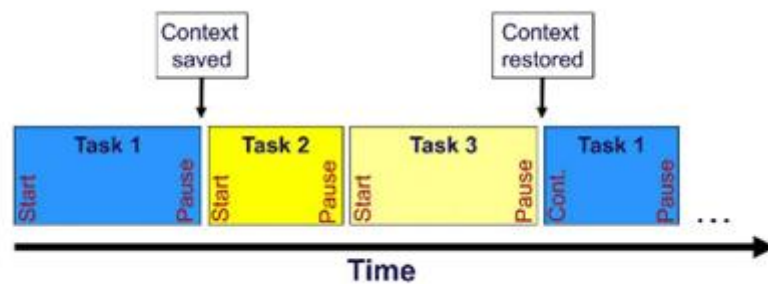

Figure 10 . Cooperative with context-switch - some authors might also call this a round-robin pattern (Figure from [6])
- (1) *Cooperative round-robin* differs from RTC in the sense it has the ability of pausing a task and getting back to where it stopped (Figure 10)